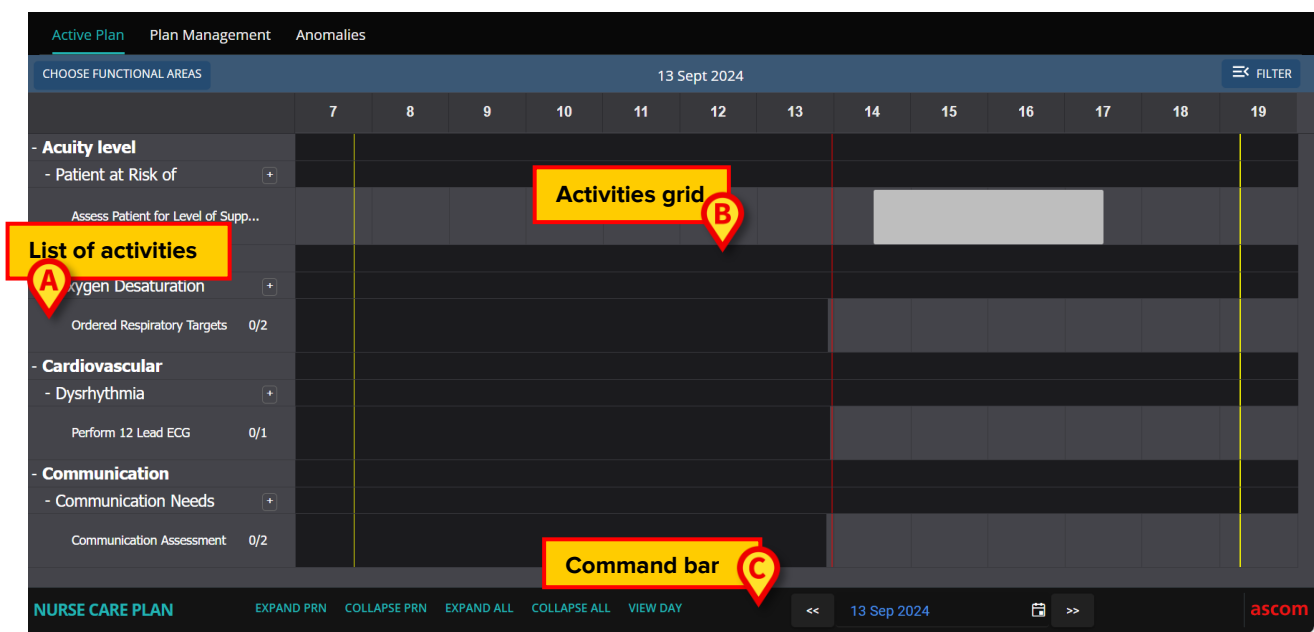

Fig 48
The “Active plan” screen is then displayed (Fig 48).
The Active Plan screen (Fig 48) is composed of the following areas:
- 1) the list of activities (Fig 48 **A** – described in section 3.2);
- 2) the activity schedule grid (Fig 48 **B** – described in section 3.3);
- 3) the command bar (Fig 48 **C** – described in section 3.4).